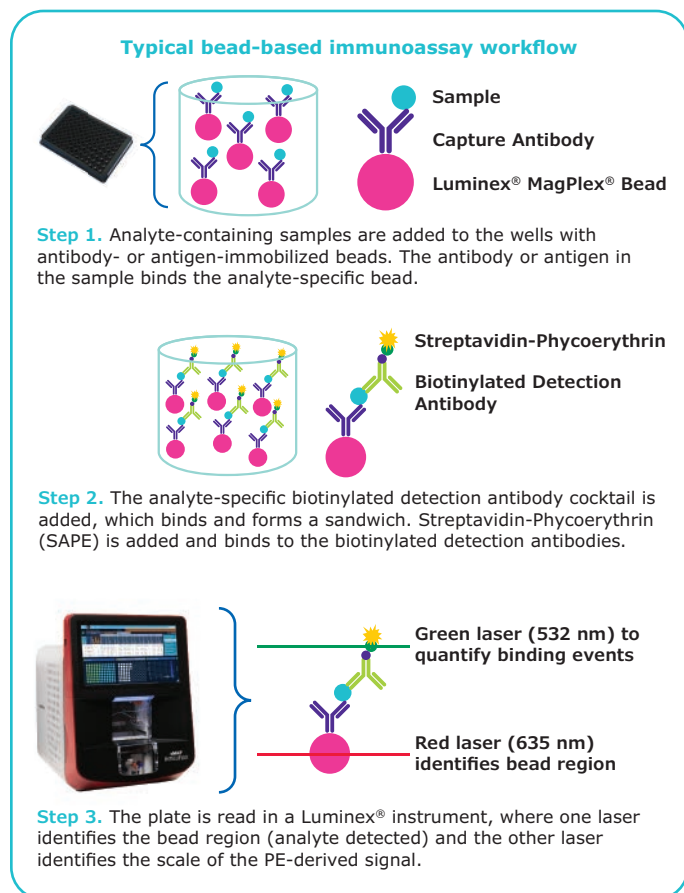

Figure 1. The typical bead-based immunoassay procedure as seen in MILLIPLEX® assays for the Luminex® platform.
- › The reaction mixture is then incubated with SAPE conjugate, the reporter molecule, to complete the reaction on the surface of each microsphere. **Figure 1** illustrates the typical bead-based immunoassay procedure.